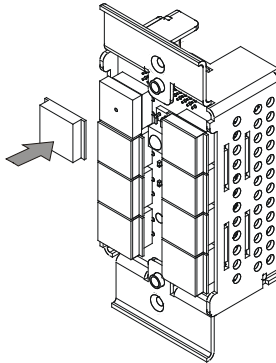

Figure 5: Placing the Button Cap
4. Retaining the orientation, place the eight button caps on the buttons of the **RC-8IR** (see Figure 5).